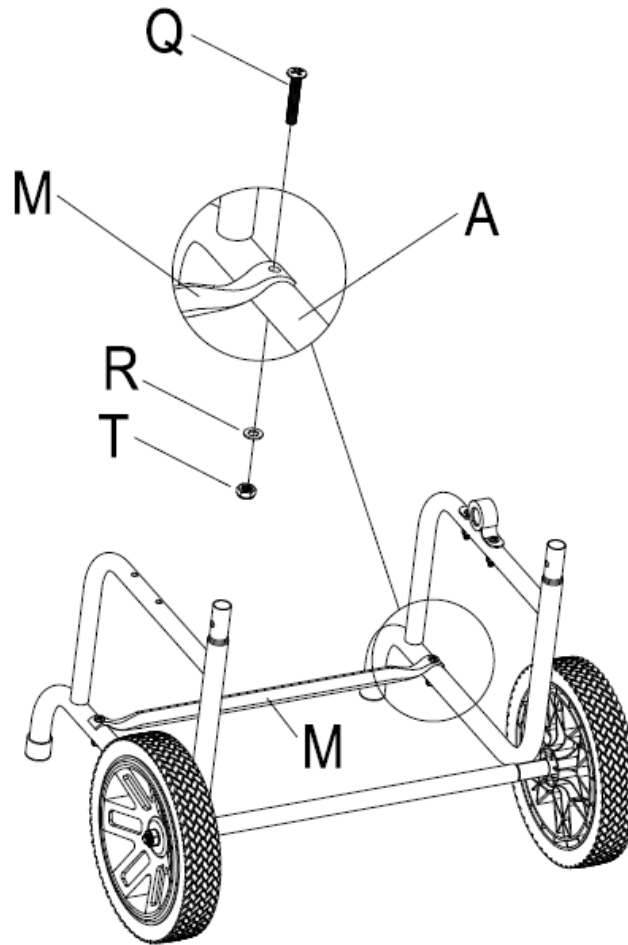

Figure 3
Step 3: Attach Frame Connector (M) to the Side frame (B) and Side Frame with Bearing (A) with Bolt (Q), Washer (R) and Lock Nut (T). See Figure 3. Repeat for opposite side.